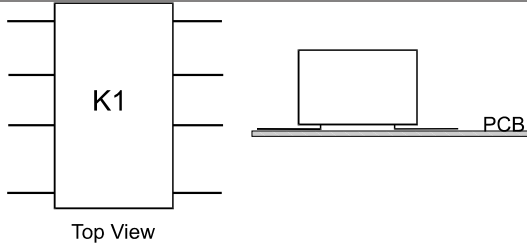

Figure 2
2. Using the component placement guide and the parts list, install all components on PCB except for R5, Q1, L1, L2, and D3. Keep the PCB as flat as possible during assembly. Flexing the PCB during or after assembly may fracture and destroy surface mounted components. See Figures 2, 3, and 4 for proper pin prepping of K1, IC1, and R2. All components are surface mounted. Do not place any ground connection leads through any via holes! Be sure of the polarity of C4. Solder them on the top surface only. After assembly is complete, inspect the bottom side of the PCB for solder that may have leaked through the via holes. Remove the excess with a knife or file. Be sure the bottom is free of any protrusions from the top side of the board and is smooth to the touch.